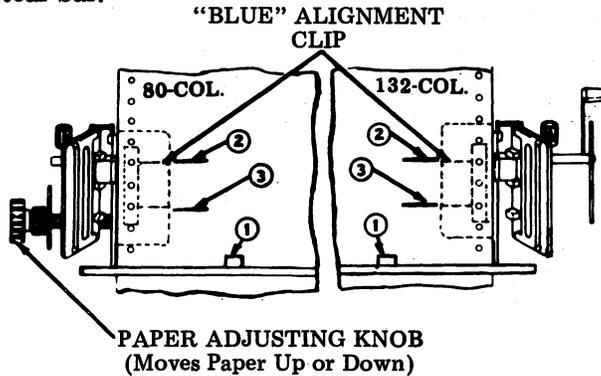

Fig. 20
2.19 The blue alignment clip on the tractor assembly, (left tractor - 80 column) (right tractor - 132 column) is used to align the first printed line on the form. By positioning the paper so that the first line is just above the paper guide ① and the top of the alignment clip ② position to any reference mark on the form (or mark with pencil). Moving the paper down so that the reference mark aligns with the bottom of the clip ③ will align the form for the desired first line printing. See Fig. 20. On forms access printers, the form is considered in the "home" position when the perforated tear line is directly behind the tear bar.